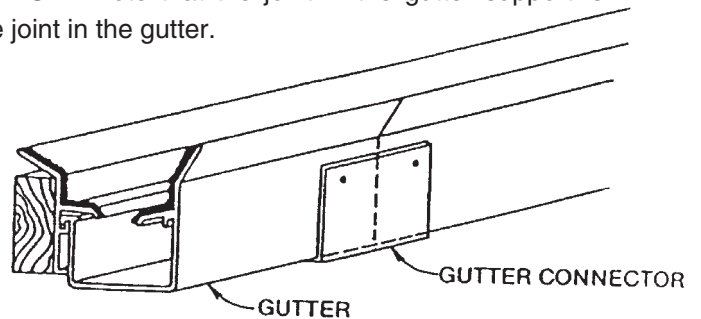

Fig. 9
- d. Slip the gutter connector over the outside of the gutter joint (see Fig. 9). The gutter connector should be centered over the joint and the bottom of the gutter connector should contact the bottom of the gutter. Using the gutter connector as a drill jig, drill two .125" (.3175 cm) diameter holes in the side and two in the bottom of the gutters. Remove the gutter